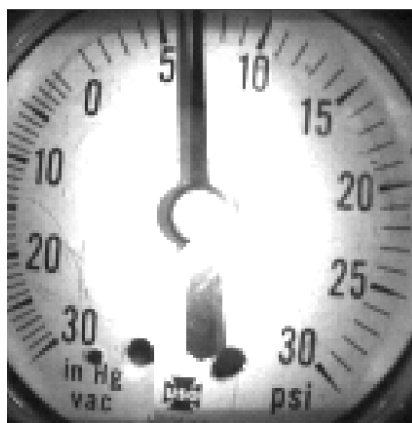

Figure 34. Glare from left LED on Bottom of Needle
- a. Since Dynamic Stitching uses a special offset stitching pattern, it is prone to some additional glare near the center of the needle. See Figure 34 for an example.